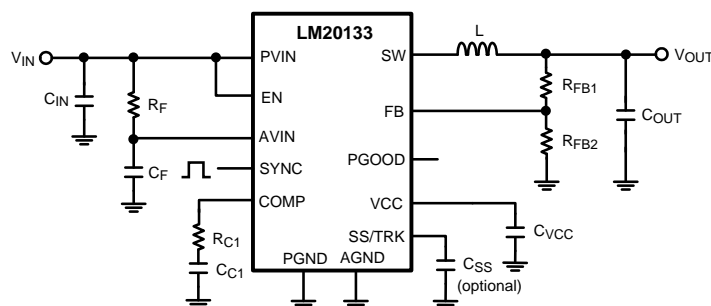

**Figure 38. Schematic of LM20133 Highlighting Layout Sensitive Nodes**
1. Minimize area of switched current loops. In a buck regulator there are two loops where currents are switched very fast. The first loop starts from the input capacitor, to the regulator VIN pin, to the regulator SW pin, to the inductor then out to the output capacitor and load. The second loop starts from the output capacitor ground, to the regulator PGND pins, to the inductor and then out to the load (see Figure 38). To minimize both loop areas the input capacitor should be placed as close as possible to the PVIN pin. Grounding for both the input and output capacitor should consist of a small localized top side plane that connects to PGND and the die attach pad (DAP). The inductor should be placed as close as possible to the SW pin and output capacitor.